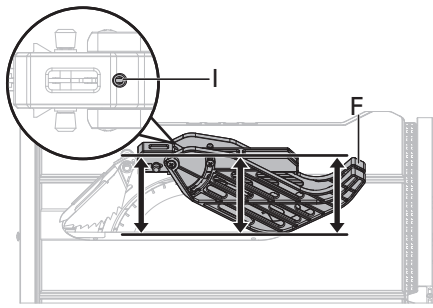

Fig. 9c
- If blade guard is not parallel to table when riving knife is in uppermost position (through cuts), adjust the set screw (I) as necessary. (Fig. 9c)